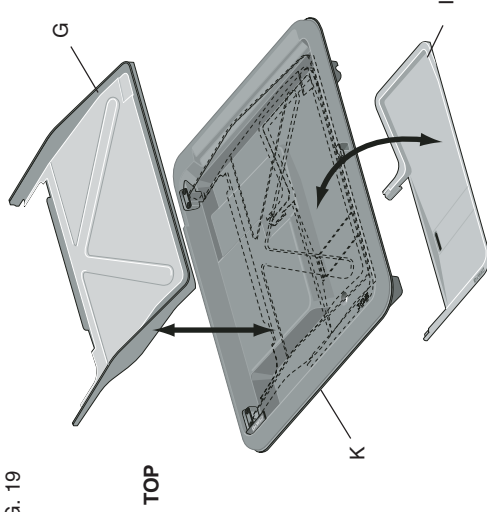

FIG. 19
The rear water attachment (G), cutting cart water attachment (I) and water pan (K) may be nested together to make carrying easier (Fig. 19).